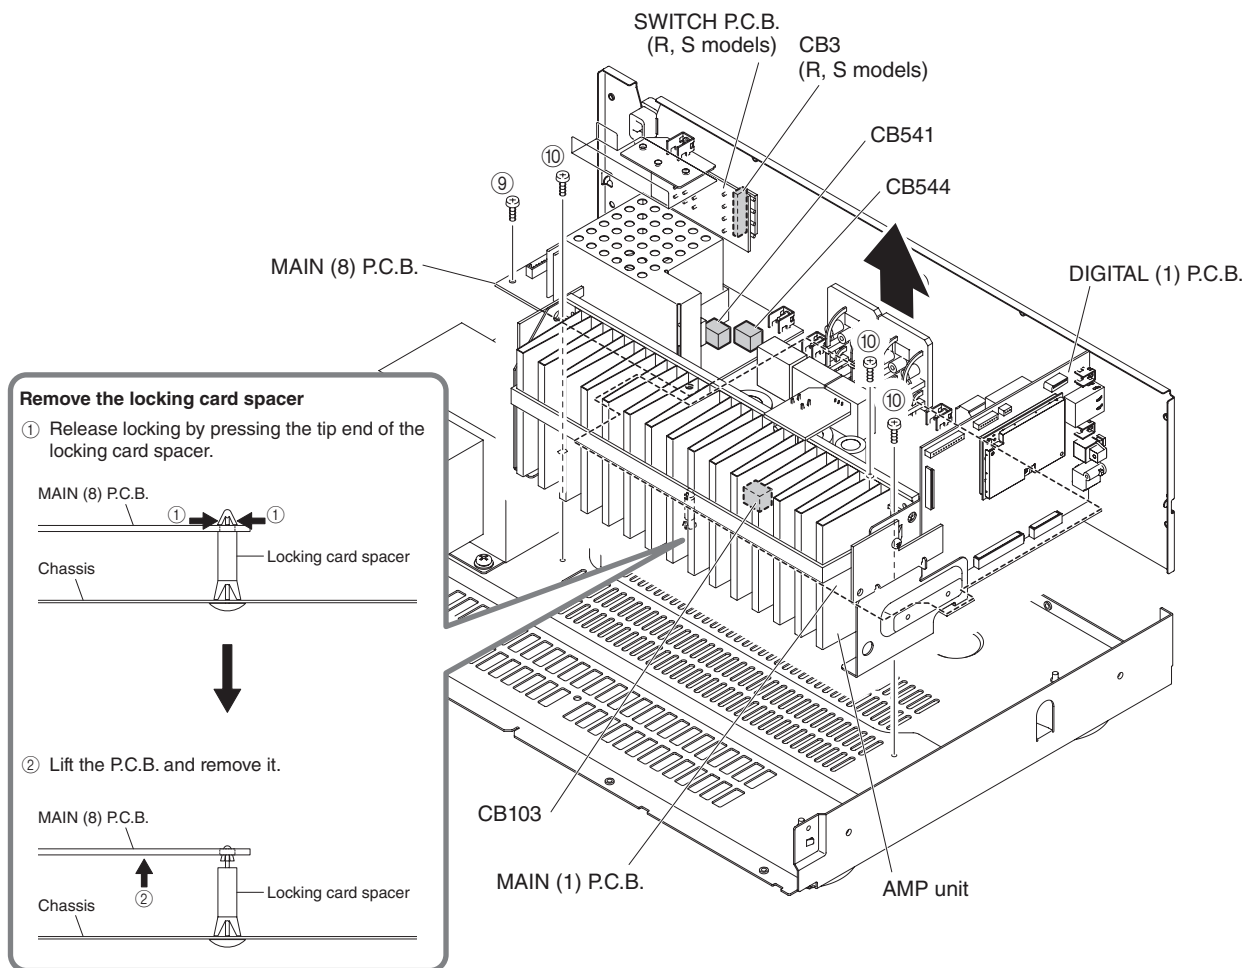

Fig. 4
- Remove screw (⑨) and 3 screws (⑩). (Fig. 4)
- Unlock the locking card spacer. (Fig. 4)
- Remove CB3 (R, S models), CB103, CB541 and CB544. (Fig. 4)
- Remove the AMP unit. (Fig. 4)